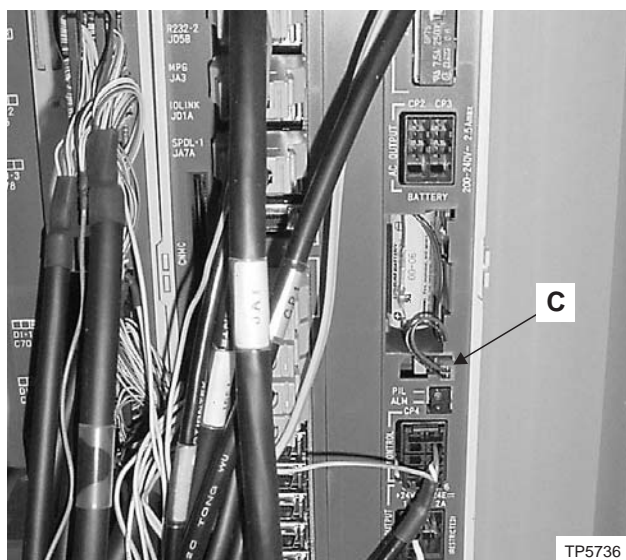

Figure 5.3 - Control Battery Connection
6. Disconnect the old battery pack from receptacle “C”, Figure 5.3.